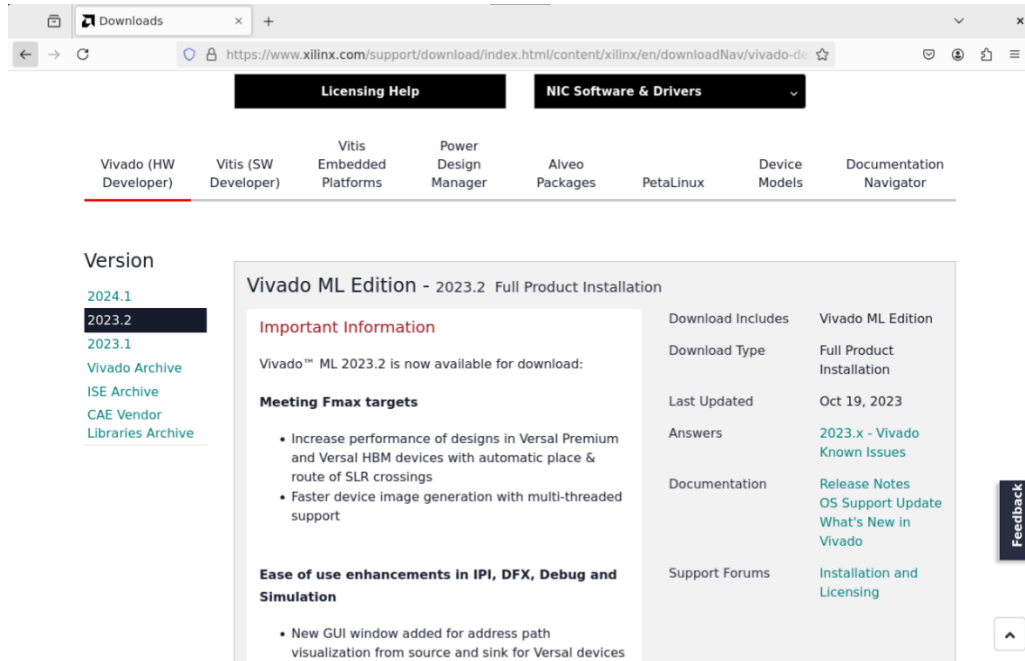

Figure 1: The AMD download page for Vivado/Vitis version 2023.2.
2. Go to <https://www.xilinx.com/support/download.html> and click the 2023.2 link found on the left under “Version.” In future years, you may have to instead click on “Vivado Archive” to find 2023.2 as newer versions are released. The page should look like the one in Figure 1.